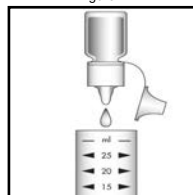

Figure 2
2. Add 4 drops of A-1404 Stabilizer Solution. Fig. 2
3. Add 4 drops of A-1405 Catalyzer Solution (green). Fig. 2
4. Add 4 drops of A-1406 Activator Solution (blue). Fig. 2